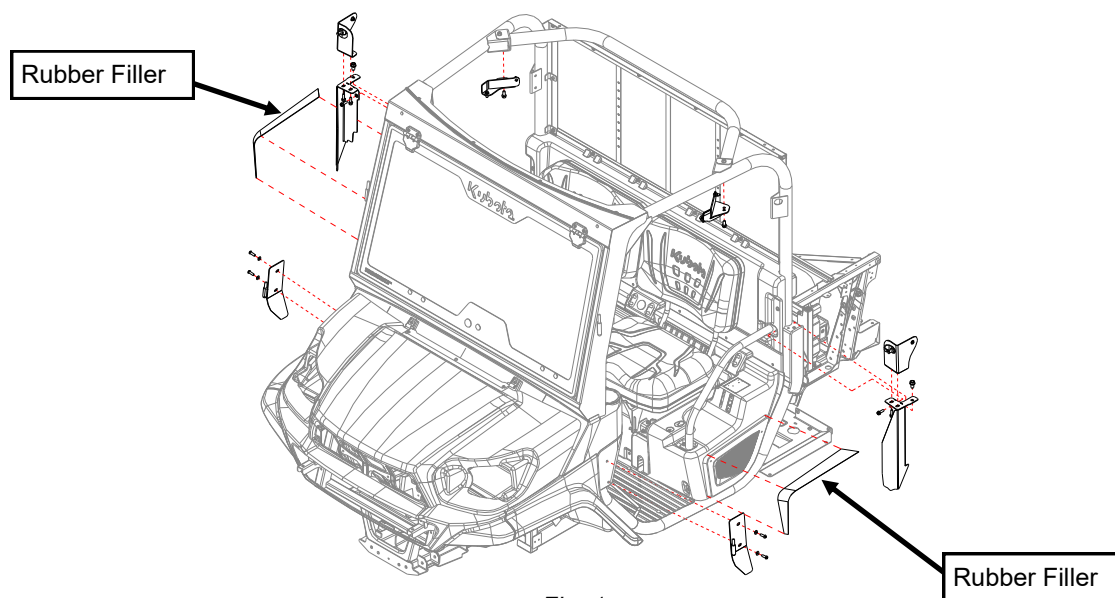

Fig. 1
1. Remove adhesive backing from Velcro on back-side of rubber fillers. See fig. 1.